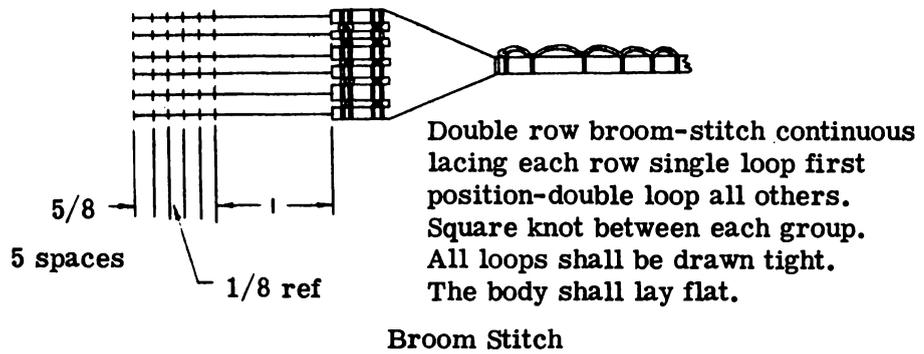

Figure 4-4. Stitch Lacing
c. Fan Tie: Tie points of the stitching knot for fan-ties shall be approximately 1/2 inch from the body of the cable harness unless otherwise indicated on the applicable drawing. (Figure 4-4.)
d. Broom Stitch: A minimum breakout length of 1 inch shall be maintained. Lead lengths shall vary 1/8 inch unless otherwise indicated on applicable drawing. (See Figure 4-4.)